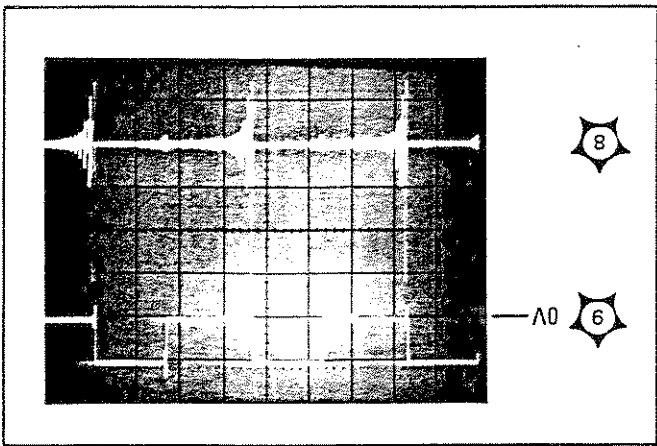

Figure 13. Pulse Input (A1TP9, 5V per division) vs. Waveform at A1TP8 (0.2V per division, ac coupled).
d. If the fall time cannot be adjusted to within specifications, use waveforms (Figures 13, 14, and 15) to troubleshoot U2, U4, Q3 and Q4.